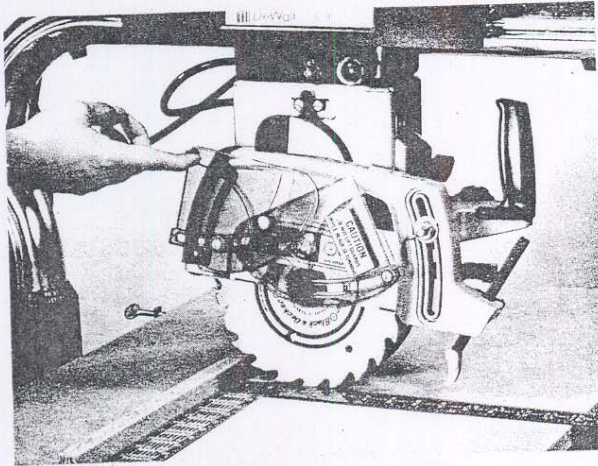

Fig. A2
3. Hold the square with your left hand and pull the saw forward (Fig. A2 on next page). If the arm is 90° the blade will stay against the square as you pull it out. If the arm is too far to the right, the blade will move away from the square. If it is too far to the left, it will push the square to the left. In either case correction is easy.